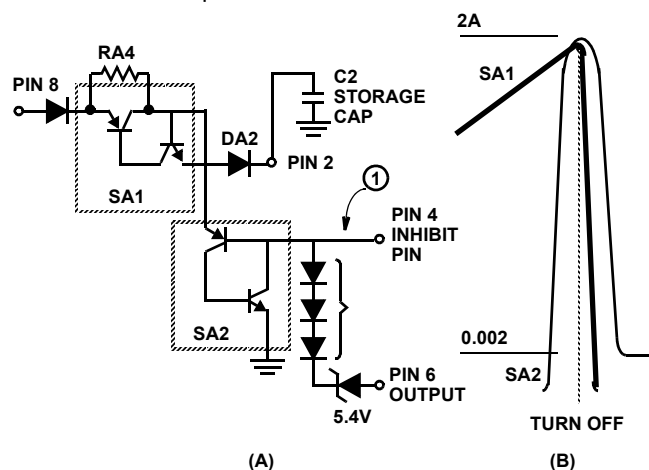

FIGURE 17 (A) (B). SCHEMATIC REPRESENTATION OF SCRs
decreases for C2 voltages below 5V. To understand why the voltage on C2 determines the maximum input current that the HV-2405E can safely turn off, its important to understand the electrical connection between SA1, SA2 and the storage capacitor C2. Figure 17(A) is a schematic representation of both SCRs and is presented to explain how SA2 turns off SA1.
Assume that SA1 is on and the current path is from pin 8 to pin 2. If a small current is pulled out of the base of SA2s pnp (point 1, Figure 17A) SA2 will turn on. When SA2 turns on the collector current of SA1s pnp no longer provides base drive to its npn and SA1 turns off. Figure 17(B) shows the current relationships for both SCRs.